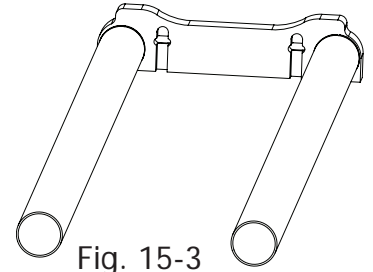

Fig. 15-3
- ✦ **Step 15-8:** Repeat steps 15-1 through 15-4, this time insert the bolt in the conduit cap through the remaining available hole in the bottom plate end, as shown in Fig. 15-3.